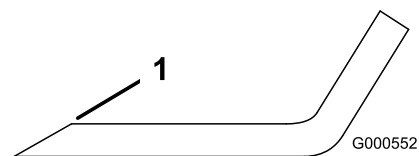

Figure 38
1. Use a file to sharpen the cutting edge at both ends of the blade (Figure 38). Maintain the original angle. The blade retains its balance if the same amount of material is removed from both cutting edges.
2. Check the balance of the blade by putting it on a blade balancer (Figure 39). If the blade stays in a horizontal position, the blade is balanced and can be used. If the blade is not balanced, file some metal off the end of the sail area only (Figure 38). Repeat this procedure until the blade is balanced.